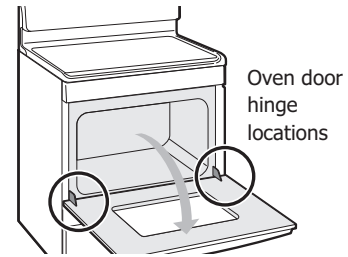

Figure 41: Door hinge location
3. Fully open the oven door, horizontal with floor (Figure 41).